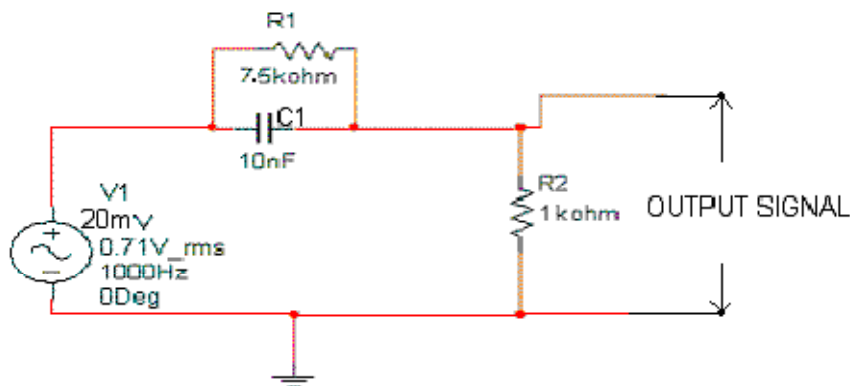

Figure 1: Pre-emphasis Circuit
1. Connect the circuit as per circuit diagram as shown in Fig.1.